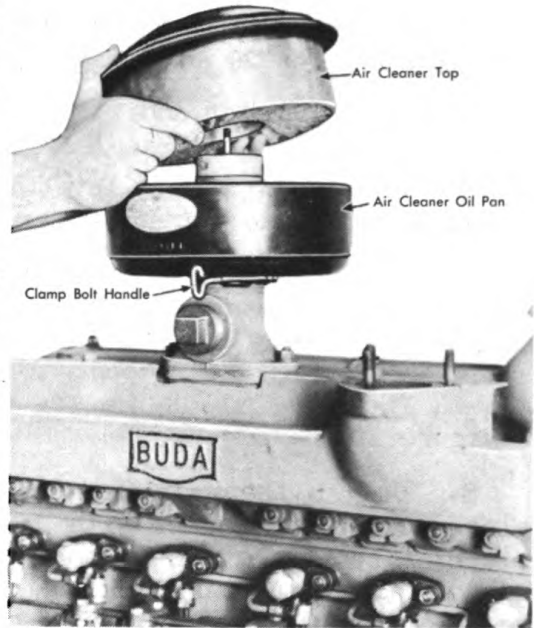

Figure 19. Removing Air Cleaner Cup
4. Clean the air cleaner cup and refill with fresh crankcase oil to level indicated inside of air cleaner oil cup. See Fig.19. CAUTION: Inspect the clamp between the air cleaner and the intake manifold to be sure this joint is air tight so that no dirt can be sucked in through a loose joint.
The oil cup should be emptied and cleaned, and refilled with oil to the oil level bead with engine oil daily, every 8 hours of operation. See Figure 19 on Page 41. If dust conditions are exceptionally bad, it may be wise to clean the cup and refill with fresh oil every 4 hours. Check the felt gasket sealing the oil cup to the intake manifold adaptor every time the cup is removed for cleaning.